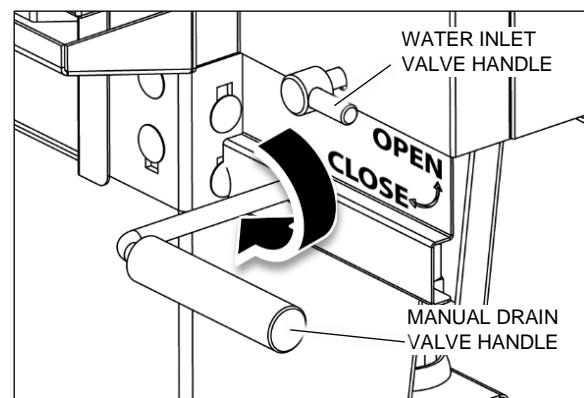

Figure 5-2
2. Open the door, and open the manual drain valve handle as shown in Figure 5-2.